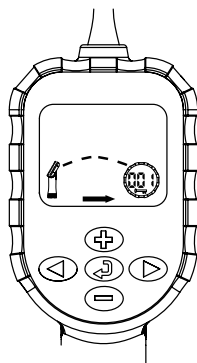

Figure 1
2. Use the  and  buttons to change the 3-digit identification number. Use the  button to make sure that the WVP is in the transmit mode with the arrow on the display pointing towards the address icon  (see Figure 1).